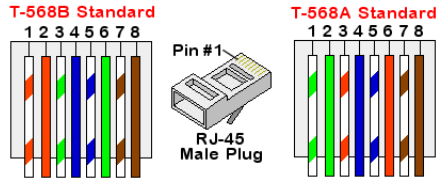

Figure 18: Standard cable wiring
- c. Insert the eight wires into an RJ45 connector, as described in *Figure 18*
7. For the switch/ router side, use a pre-terminated cable or use a crimper to prepare an RJ45 communication connector: Insert the eight wires into the RJ45 connector in the same order as above (*Figure 18*).